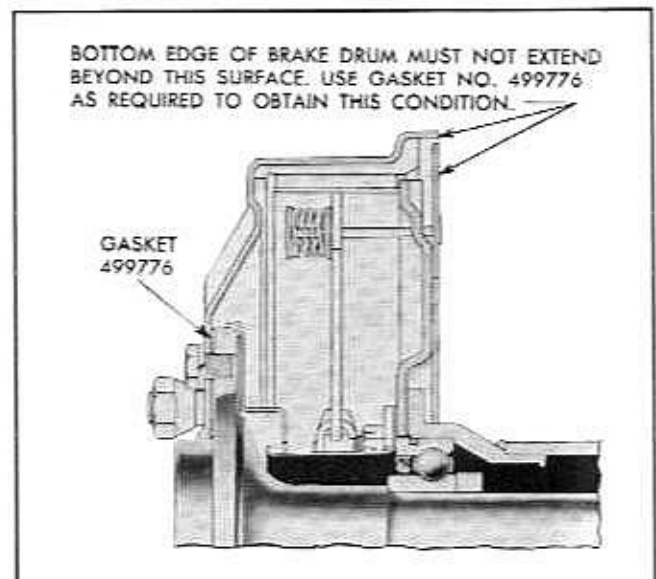

Fig. 4-8 Correct Alignment of Brake Drum Flange
11. Install brake drum and wheel. **NOTE:** When installing brake drum, check to see that edge of drum flange is even with shield on the backing plate as shown in Fig. 4-8. If flange extends over shield, install sufficient gaskets between axle flange and drum to obtain correct alignment.